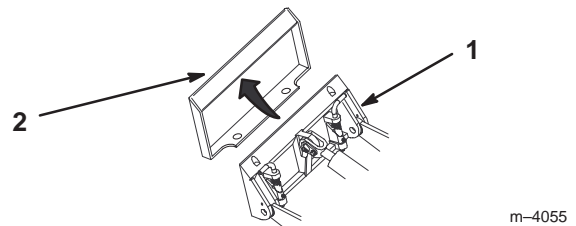

Figure 16
4. Position mount plate into the upper lip of the attachment receiver plate (Fig. 16).